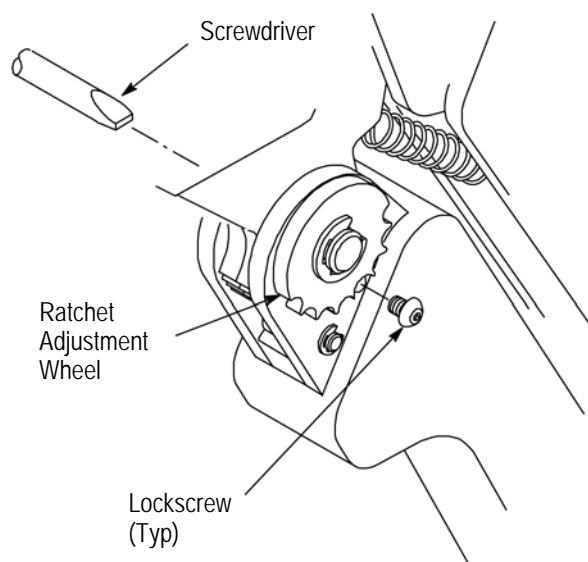

Figure 5
7. RATCHET ADJUSTMENT (Figure 5)